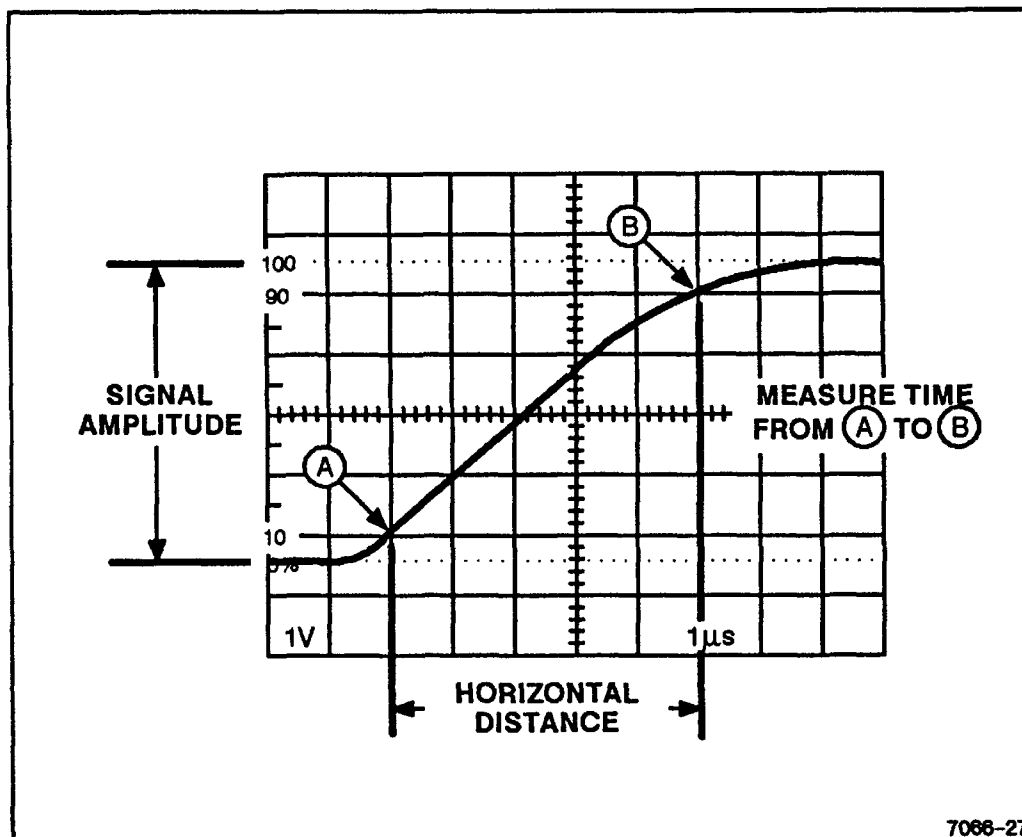

Figure 6-6. Rise time.
Rise-time measurements use the same methods as time duration, except that the measurements are made between the 10% and 90% points on the leading edge of the waveform (see Figure 6-6). Fall time is measured between the 90% and 10% points on the trailing edge of the waveform.
4. Adjust vertical positioning so that the zero reference of the waveform touches the 0% graticule line and the top of the waveform touches the 100% graticule line (see Figure 6-6).
6. Horizontally position the display so the 10% point on the waveform intersects the second vertical graticule line (see Figure 6-6, Point A).
EXAMPLE: The horizontal distance between the 10% and 90% points is 5 divisions (see Figure 6-6), and the SEC/DIV switch is set to 1 μs . The X10 magnifier knob is pushed in (1X magnification).